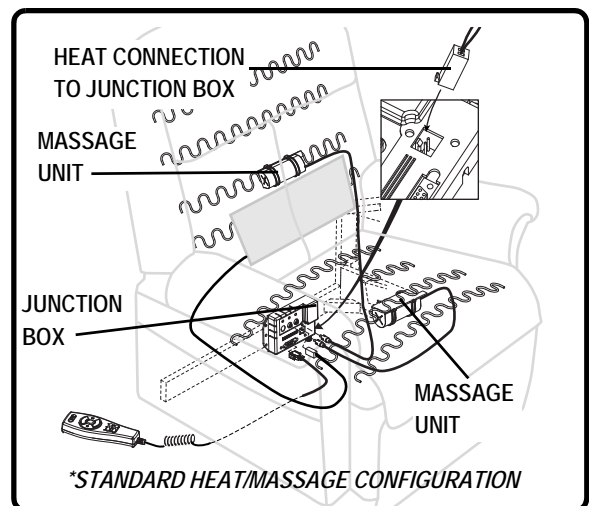

**Figure 4.2 LL770 Additional Assembly**
**NOTE:** See figure 4.2 for additional instructions regarding LC770 models.